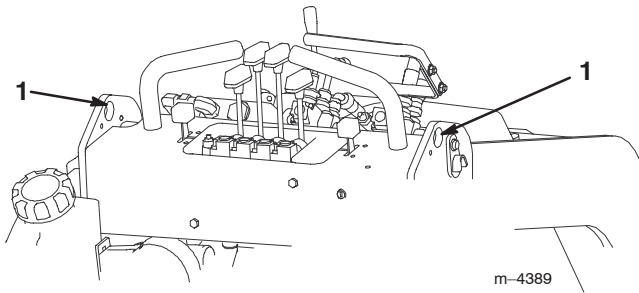

Figure 9
2. Lift the traction unit off the ground, using the two lift points (Fig. 9) and move onto a trailer.